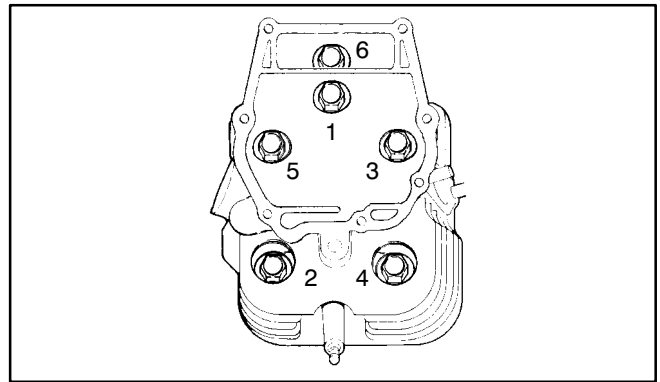

FIGURE 9-5. HEAD TIGHTENING SEQUENCE
6. Place the head in position and follow the head torque tightening sequence shown in Figure 9-5. Start out tightening all bolts to 11 lb-ft (15 N-m), then tighten to the specified torque (see Section 4. *Torque Specifications*).